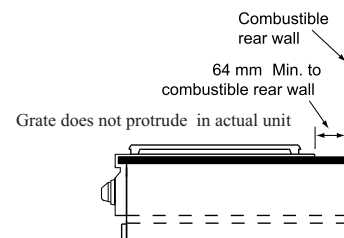

FIGURE 1
- The minimum distance from the back of the cooktop to a combustible rear wall is 2 1/2" (64 mm) minimum (Figure 1).